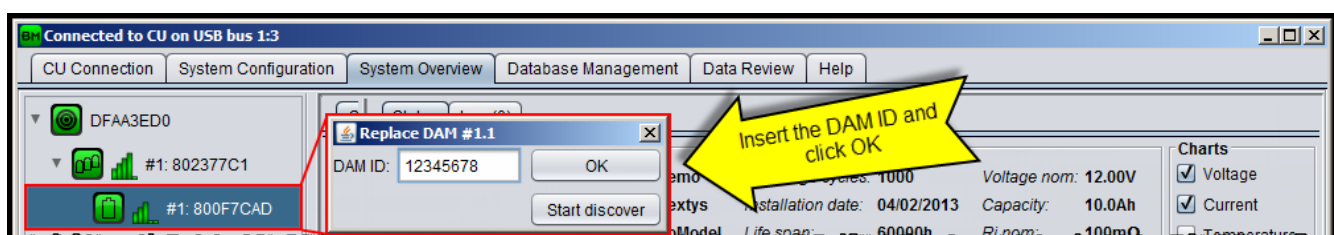

Figure 51: Battery installation date
2. On the opened dialog insert the ID of the new IDAM either automatically (activating the discover option) or manually and click “OK” (see Figure 51) to confirm.
2. On the opened dialog insert the ID of the new IDAM either automatically (activating the discover option) or manually and click "OK" (see Figure 51) to confirm.
- On the opened dialog insert the installation date (the current date is entered by default) and click “OK” (see Figure 51) to inform the system that a new battery has been installed.